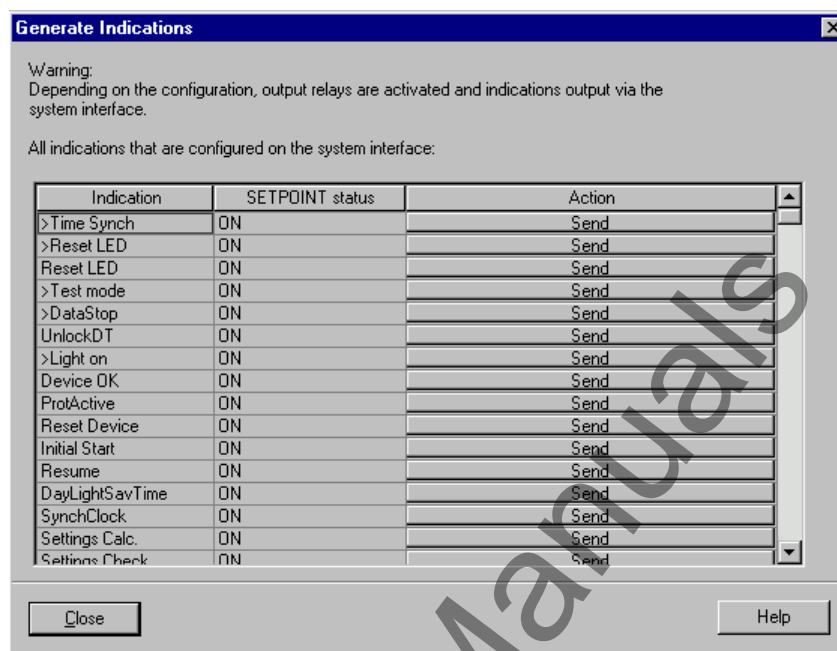

Figure 3-21 Dialog box: Generate indications — example
- ☐ Double-click on **Testing Messages for System Interface** shown in the list view. The dialogue box **Generate Indications** opens (refer to Figure 3-21).